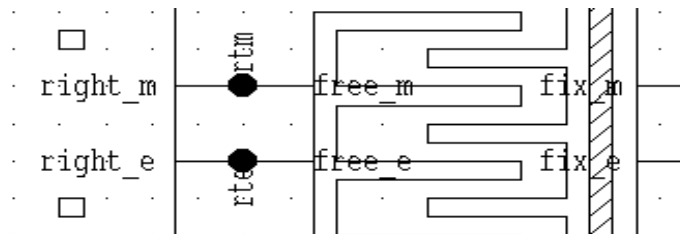

Figure 6: rtn and rte nodes
- ☑ Edit the node label orientations to look somewhat like the layout in Figure 6.